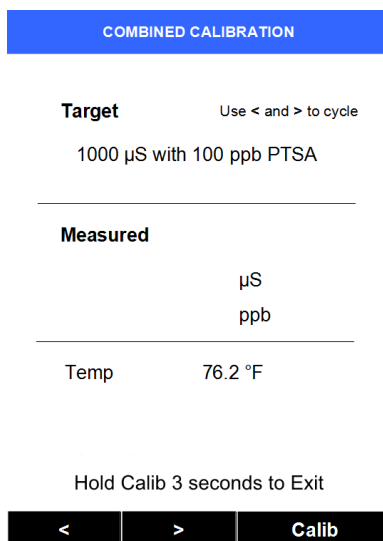

Figure 10
- 5) A screen similar to Figure 10 will appear. This is the default conductivity calibration mode, which is a Combined Calibration (this requires a combined standard with both PTSA and Conductivity). It is easily changed to the other calibration modes as desired.
- 9) Or, press Cancel (< key) to return to the Conductivity calibration selection screen (as in Figure 10). If desired, the conductivity calibration type can be changed with use of ">" or "<".